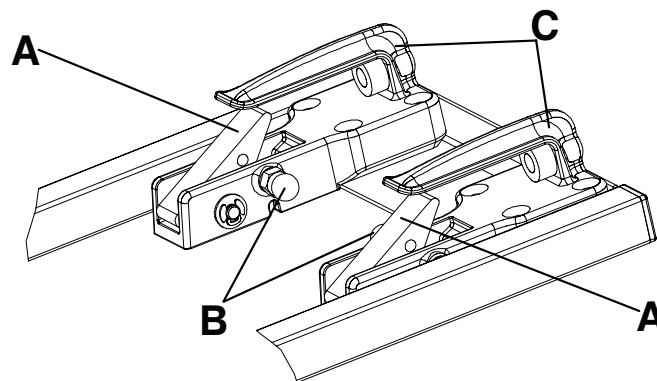

Figure 18 – Two-stage locking device
Note - The foot end latch housing is equipped with a two-stage locking device (Figure 18). When the cot is locked in the fastener, the red release button will return to its original position.
To release the cot from the two-stage locking device, pull both of the red release knobs (B) on the inside of the front retaining hooks (C) (Figure 18).